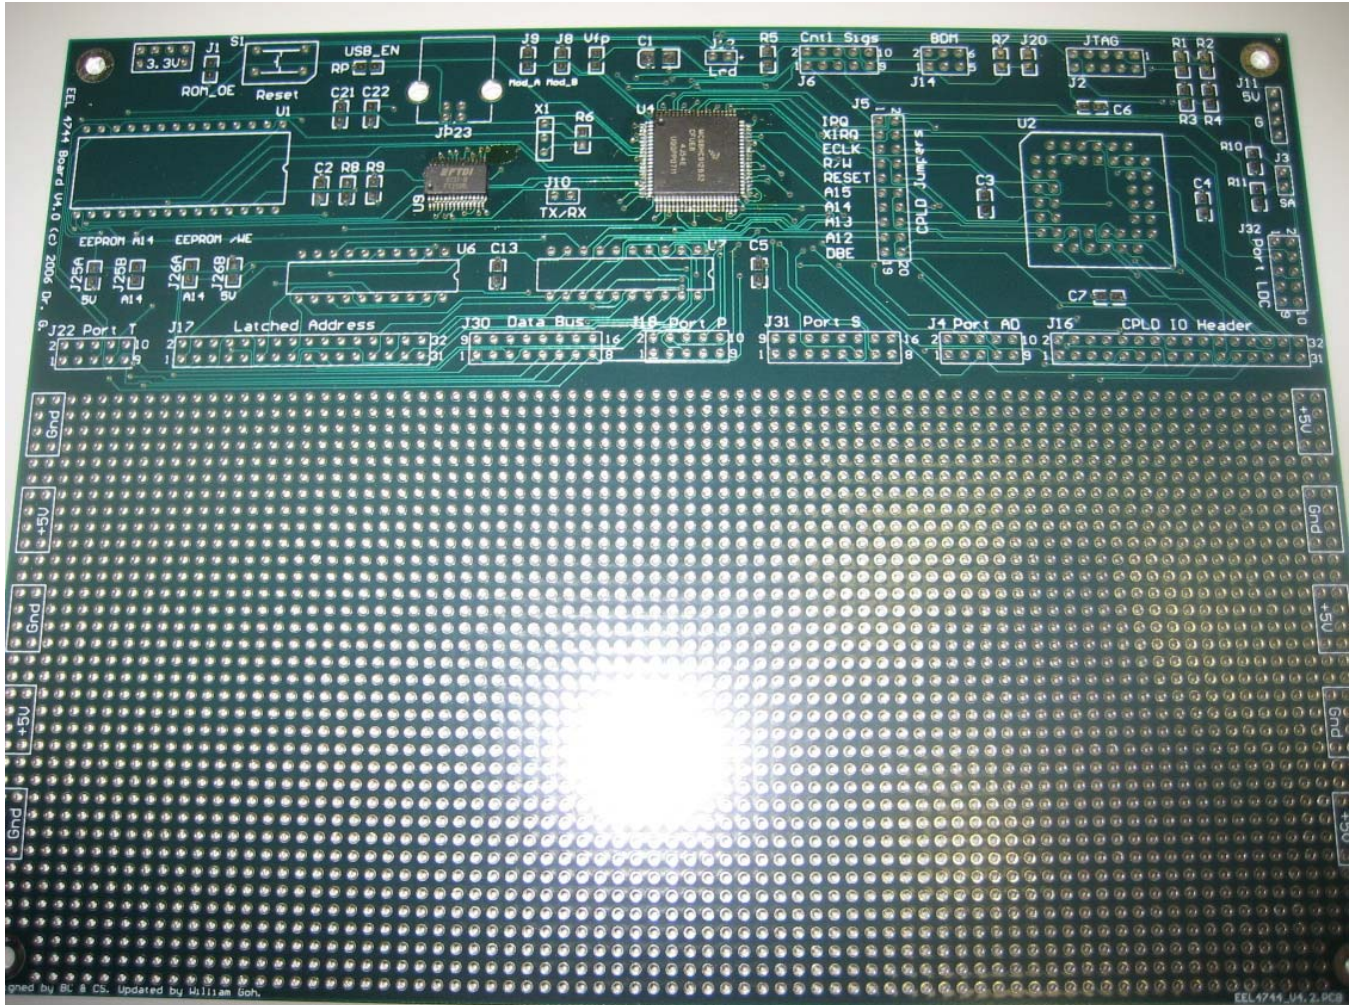
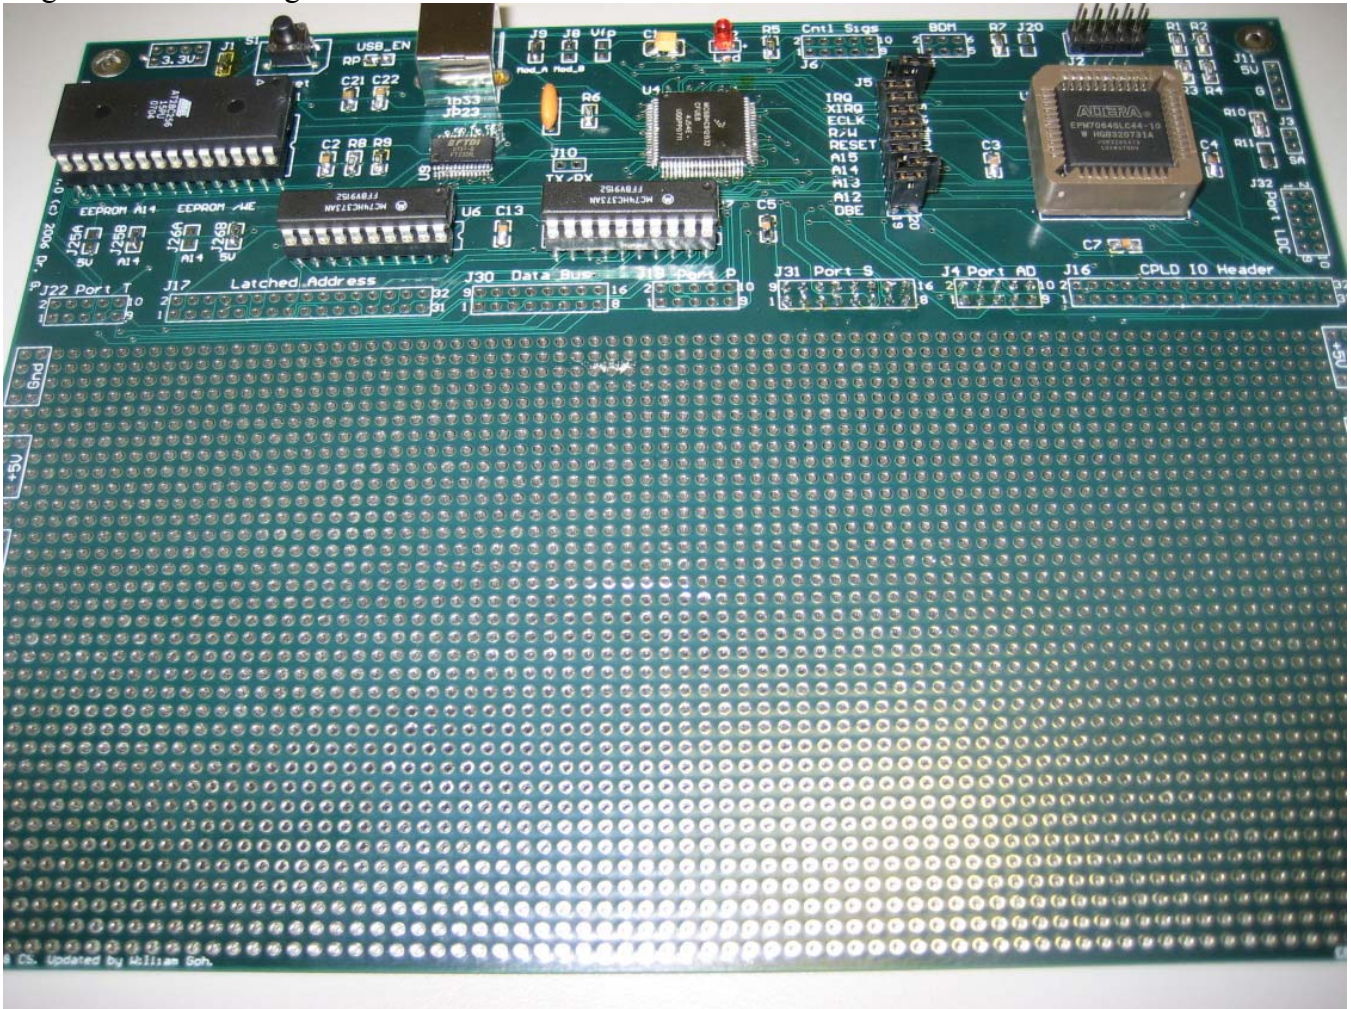
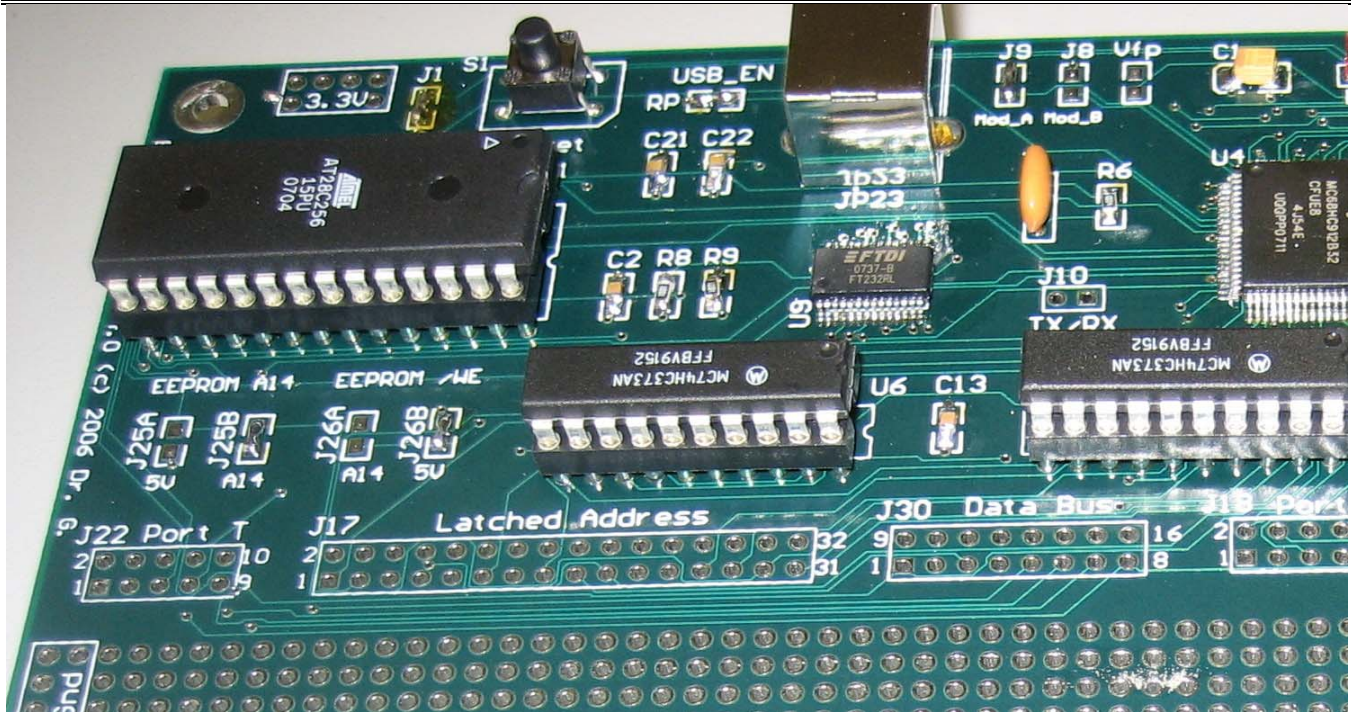
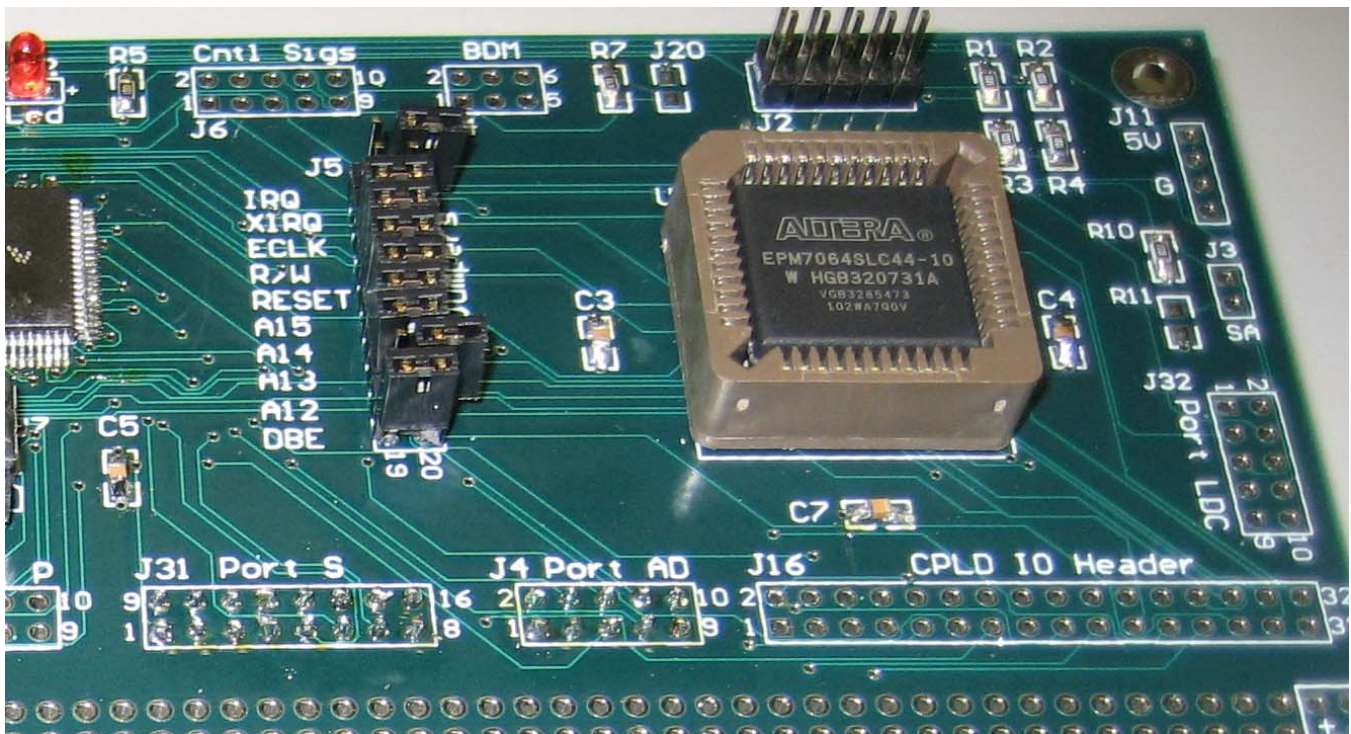

Figure 1: Unpopulated board.
Figure 2: Populated board
Figure 3: Left side zoom of populated board
Figure 4: Right side zoom of populated board
Figure 1 shows an unpopulated board (with only the 68HC12 and the USB bridge chip mounted).
Figure 2 show a partially populated board (missing only the headers). Figure 3 and Figure 4 show magnified views of Figure 2.
4. Solder the 10uF SMD Capacitors first as seen like Figure 1 onto C1. The stripe is the positive polarity which should be aligned with the curved edge just like Figure 3.
- d. Observe a small curved edge on the CPLD and the CPLD socket. That curved should be aligned together before inserting it. This is very important. If you put your chip in wrong, you will destroy it. (See Figure 4.)
- c. Move the jumpers at A12, and IRQ to the "off" position, as shown in Figure 4 with XIRQ and IRQ. (The reason A12 and IRQ jumpers were first placed added and then removed was to test them for continuity. In future labs you may reinstall these jumpers.)